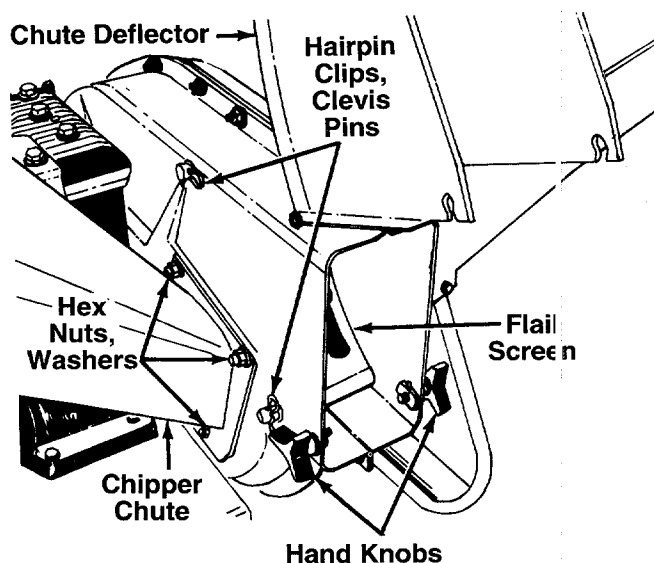

FIGURE 12.
3. Remove two hairpin clips from the clevis pins which extend through the housing. Remove the clevis pins. Lift the flail screen from inside the housing. See figure 12.
NOTE: Be certain to reassemble the flail screen with the curved side down as shown in figure 12.
3. Remove the chipper chute by removing three hex nuts and washers. A 1/2" wrench is required. See figure 12.